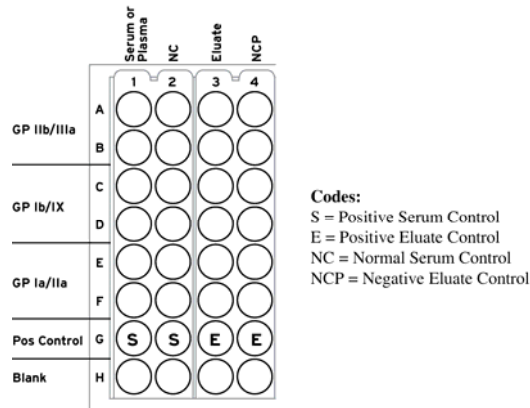

Figure 1
12. Add 50 μ L of the appropriate eluate or diluted control or sample to the wells of one column shown in Figure 1.